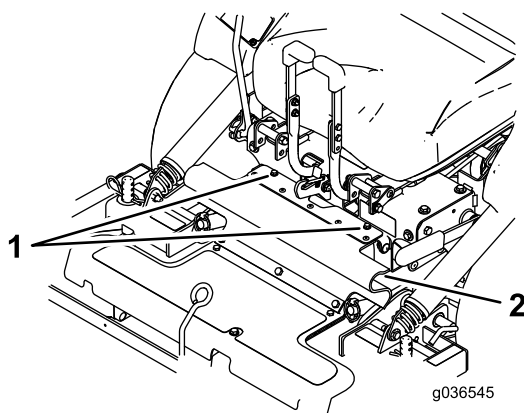

Figure 72
8. Loosen the bolts attached to the rubber guard (Figure 72).
8. Align the upper portion of the rubber guard and secure it with the attached bolts (Figure 72).